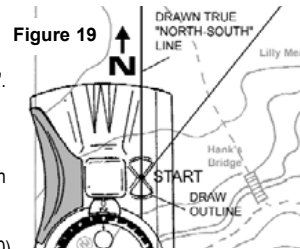

Figure 19
6. Draw an outline around the "point". (Fig 19)